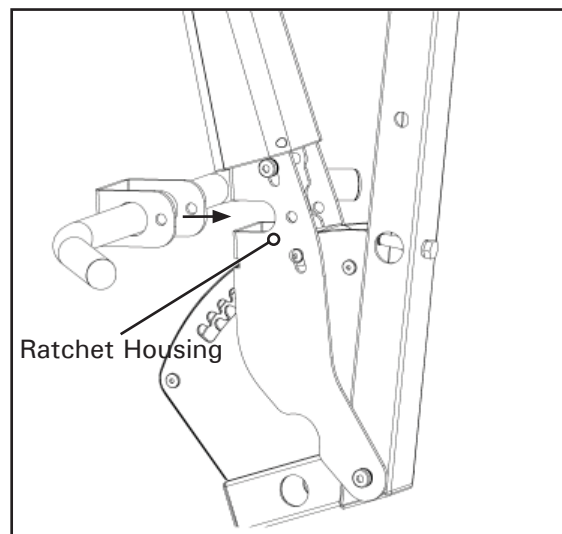

Figure 12
- Stand in front of the Main Shaft and slide the Ankle Bar over the ratchet housing into the slot (Figure 12).